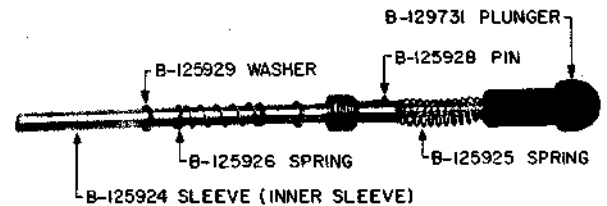

Fig. 2 - KS-16492, L2 Wire Unwrapping Tool
1.02 This section is reissued to revise the title of Fig. 2 and to revise the example for ordering a replacement part.
3.03 *Other Parts:* Fig. 2